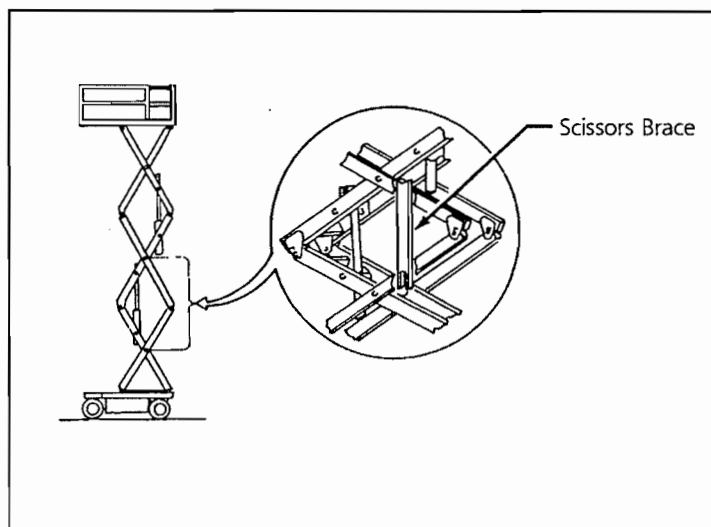

Figure 4-1: Blocking the Scissors
4.2 Blocking Scissors Assembly (Figure 4-1)